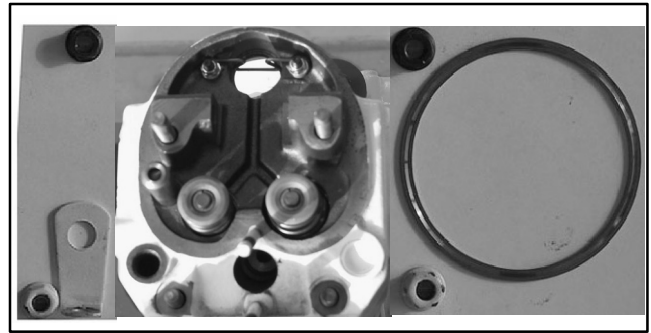

Figure 10-85 Cylinder Head and Gasket
4. Fit the cylinder head gasket. See Figure 10-85.